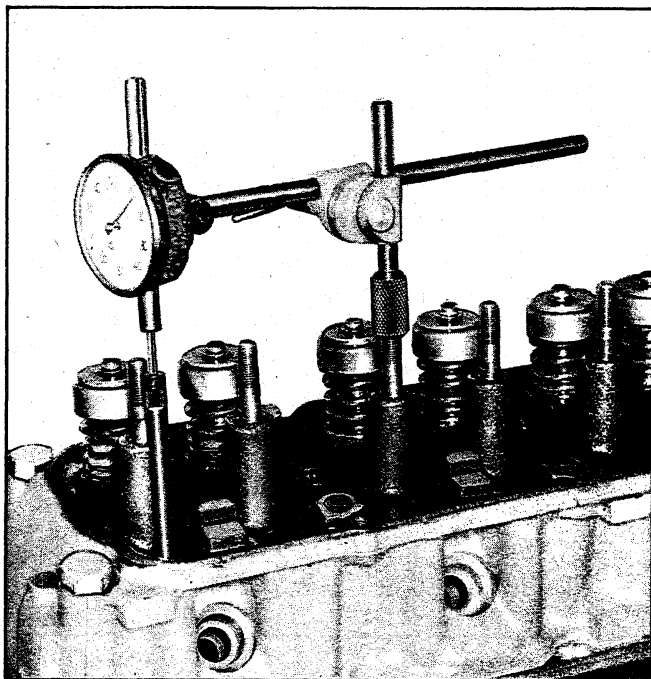

Fig. 14L - Measuring Camshaft Lobe Lift
2. Position indicator with ball socket adapter on push rod (fig. 14L).